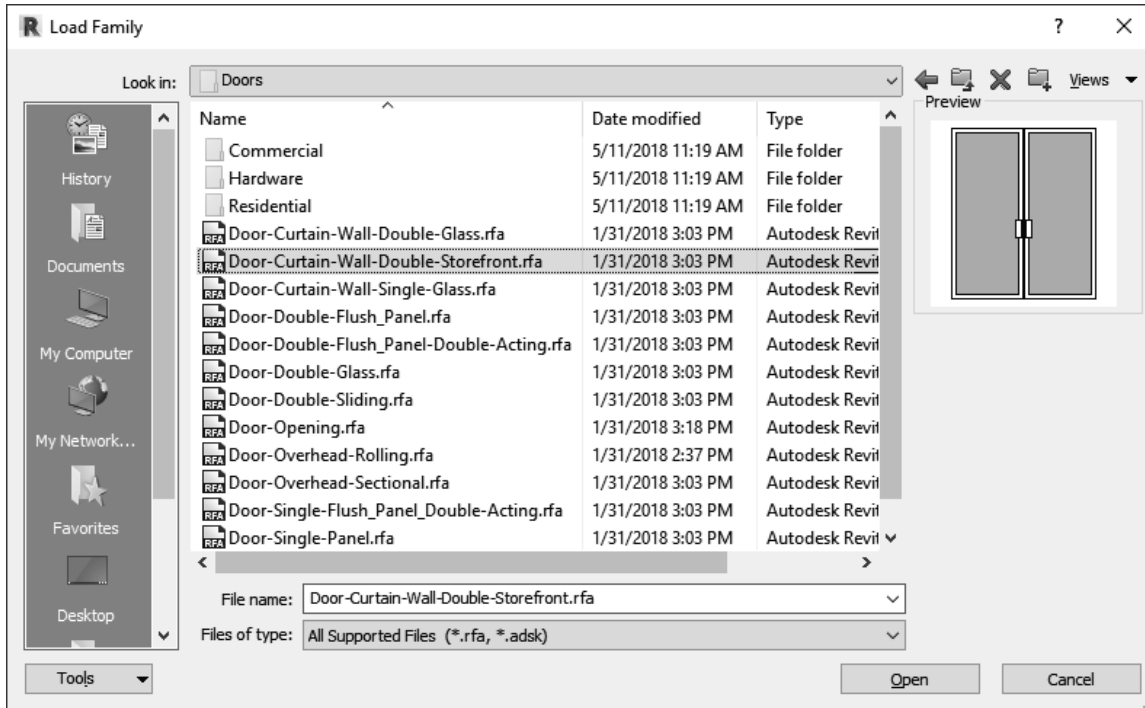

FIGURE 3-5.2 Door families on hard drive
4. Open the **Doors** folder and then select **Door-Curtain-Wall-Double-Storefront.rfa**, and then click **Open** (Figure 3-5.2).